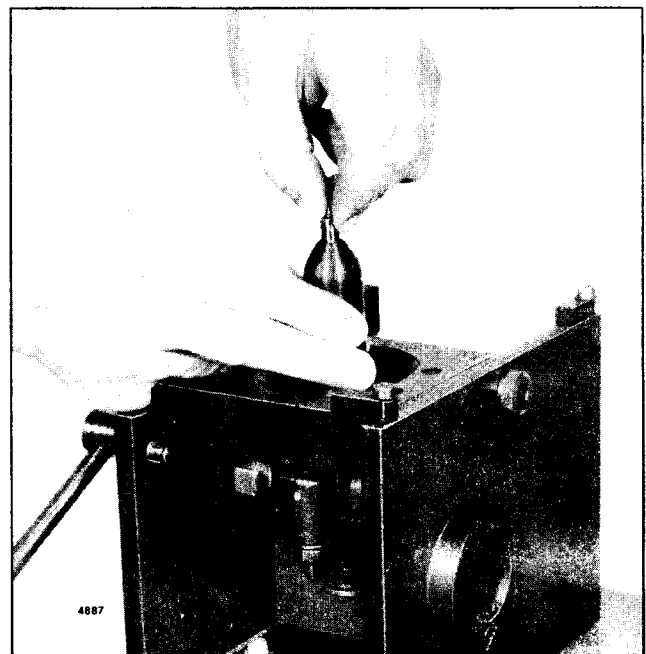

Fig. 40 - Tightening Injector Nut by Hand
8. Lubricate the threads in the injector nut and carefully thread the nut on the injector body by hand. Rotate the spray tip between your thumb and first finger while threading the nut on the injector body (Fig. 40). Tighten the nut as tight as possible by hand. At this point there should be sufficient force on the spray tip to make it impossible to turn with your fingers.